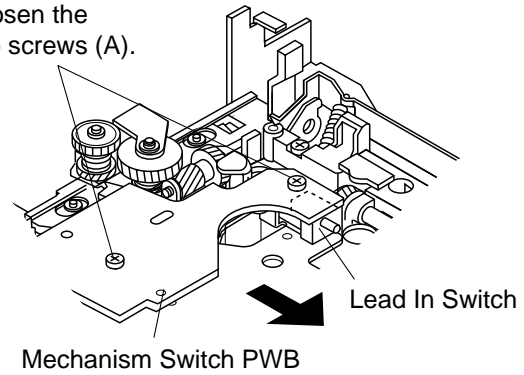

Figure 22-1
1. Loosen the screw (A) x 2 pcs. which fix the mechanism switch PWB.
After position adjustment fix with the two screws (A). (See Fig. 22-1.)